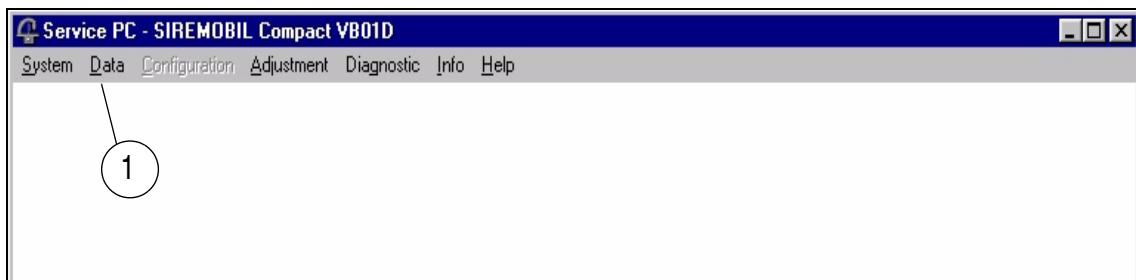

Fig. 1
- The program window "Service PC- SIREMOBIL ...." (Fig. 1) is displayed.
- Select the "Data" menu in the "Service PC- SIREMOBIL .." main window (1/Fig. 1).